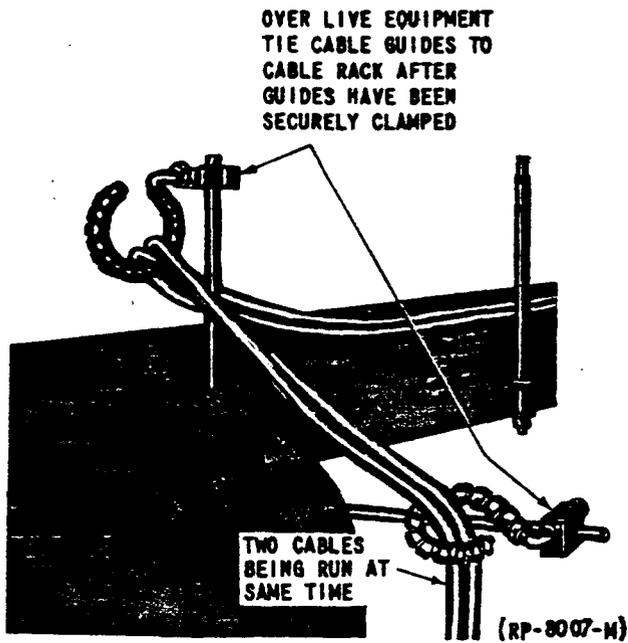
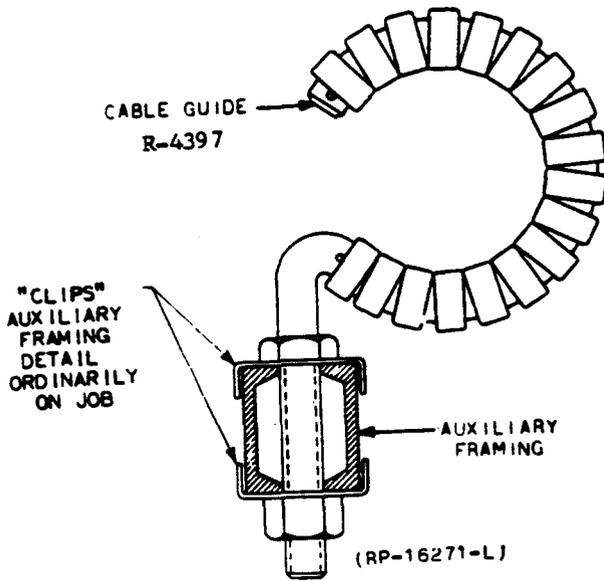

FIG. 17 METHOD OF MOUNTING CABLE GUIDES AND BRACKETS (PAR. 3.62)
FIG. 19 METHOD FOR SECURING CABLE GUIDES ON CHANNEL AUXILIARY FRAMING (PAR. 3.62)
3.62 The method of assembling R-4397 Cable Guides on cable racks is shown in FIGS. 17 and 18. For securing these guides on auxiliary framing, see FIG. 19. Similar arrangements should be used for other types of auxiliary framework. Secure the guides and brackets, using a wrench to tighten the nuts.